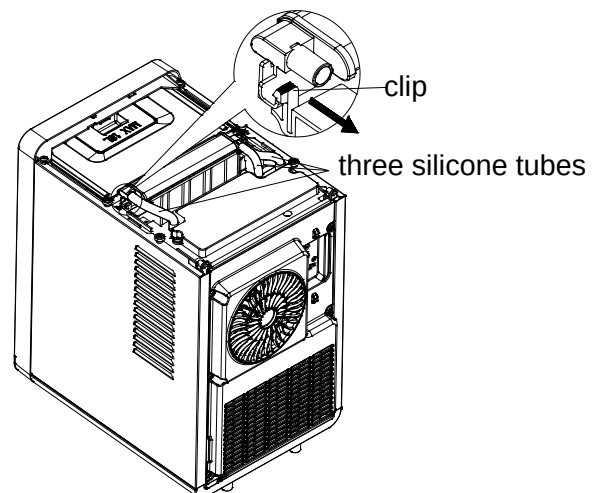

Figure 2
3. After removing the "upper cover", pull out the "three silicone tubes" from the "water distribution pipe", as shown in Figure 2.